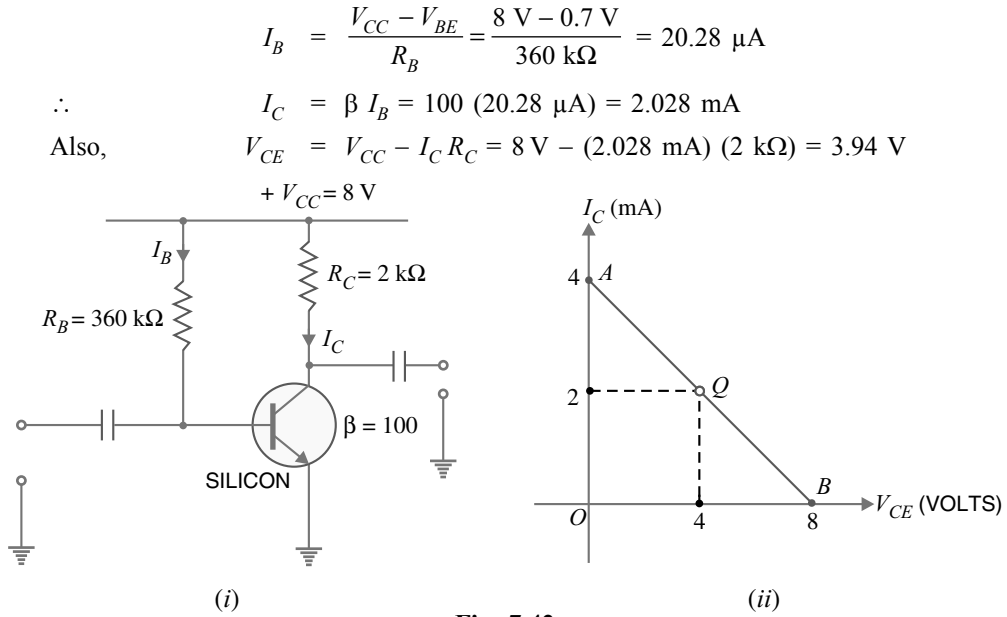

Fig. 7.42
**Example 7.35.** Determine whether or not the circuit shown in Fig. 7.42 (i) is midpoint biased.
This locates the point  $B$  ( $OB = 8 \text{ V}$ ) of the d.c. load line. By joining these two points, d.c. load line  $AB$  is constructed [See Fig. 7.42 (ii)].
**Operating point.** Referring to Fig. 7.42 (i), we have,